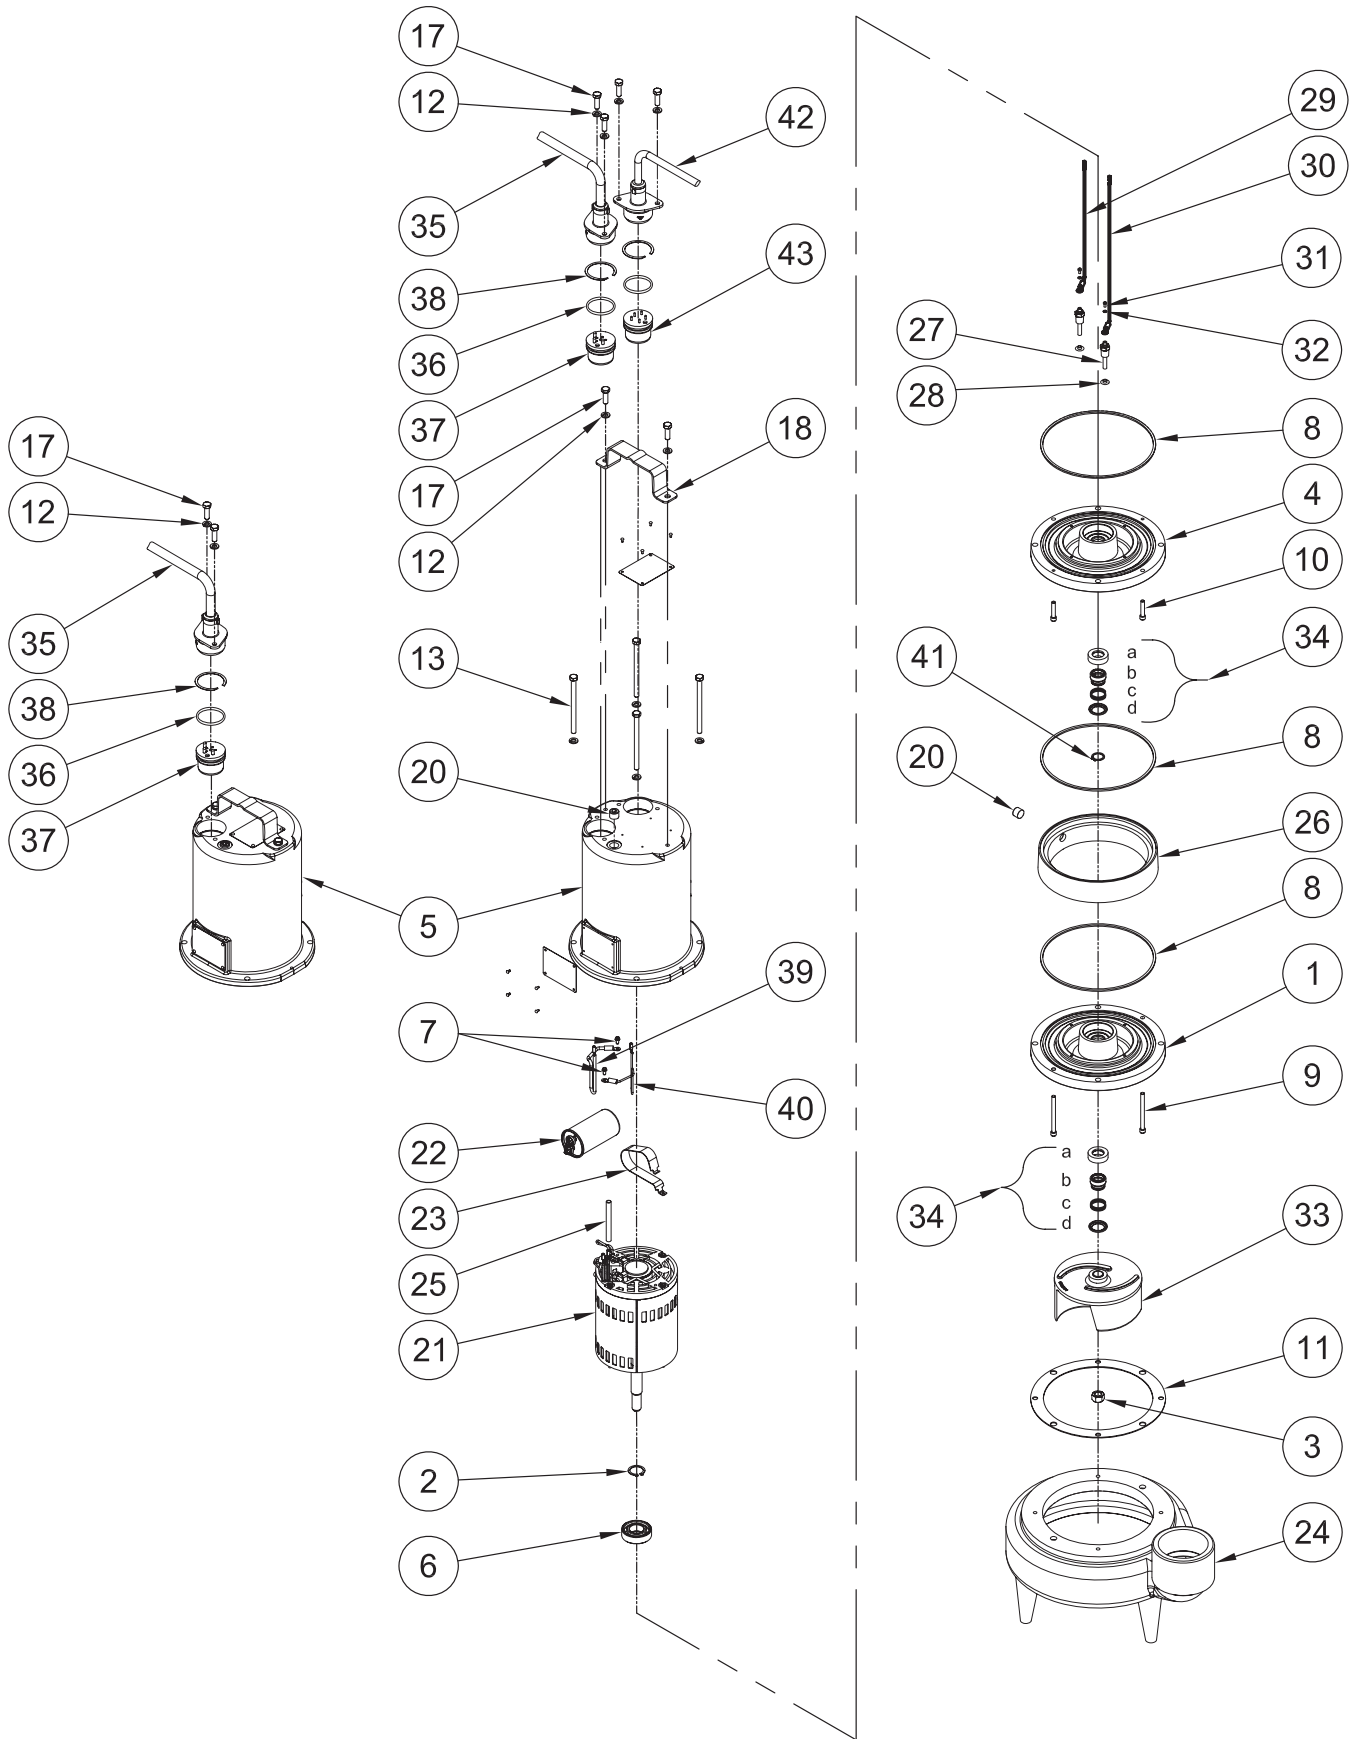

FIGURE 12
**Bearing** - When replacing bearing, be careful not to damage the rotor or shaft threads. Clean the shaft thoroughly. Apply adhesive compound to the shaft and press bearing (6) on the motor shaft, position squarely onto the shaft applying force to the inner race of the bearing only, until bearing seats against the retaining ring (2).
**Moisture Sensors** - If pump is equipped with moisture sensors, reassemble by applying thread compound to threads on probes (27) and install in upper seal plate (4), see Figure 12. Connect wire assemblies (29 & 30) to probes (27) with washers (32) and machine screws (31).
**Inner Seal** - To expose inner shaft seal (34) for examination, remove outer seal as outlined above. Remove socket head cap screws (8). Lift outer seal plate (1), square ring (8), spacer ring (26) and square ring (8) from inner seal plate (4) See Figure 12. If further repair is required, remove snap ring (41), retaining ring (34d), spring (34c) and rotating member (34b) from shaft. Examine as outlined in outer seal paragraph. If replacing seal, remove stationary (34a) by prying out with flat screwdriver.
**DO NOT** interchange seal components, replace the entire shaft seal (34). If replacing seal, remove stationary (34a) by prying out with flat screw driver.